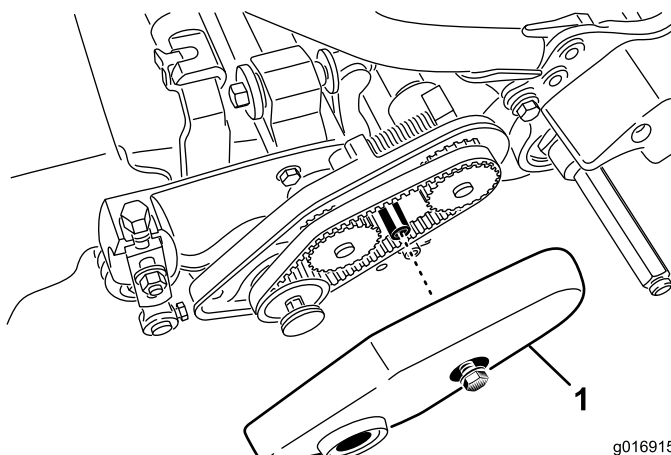

Figure 13
2. Loosen the flange bolt securing the belt cover and remove the belt cover to expose the belt (Figure 13).